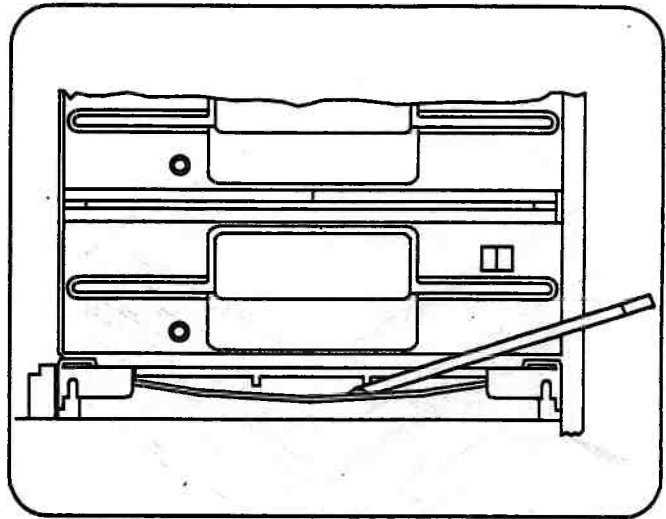

Figure 3-23. Unlocking Drive Assembly
- Using a screwdriver, push down the metal bar below the drive assembly (Figure 3-23) and slide the assembly forward to permit access to the signal and power cables.